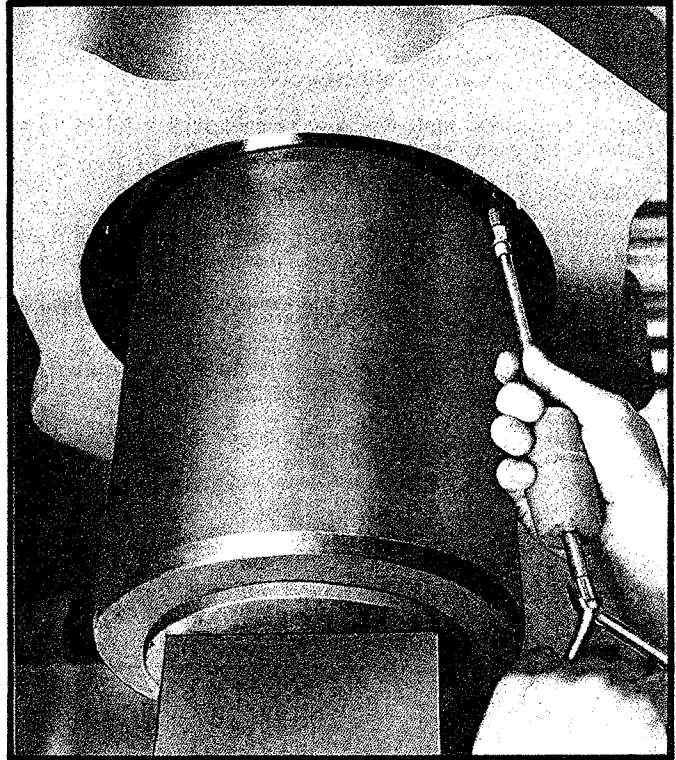

FIGURE 41
7. Using auto body slide hammer-puller, remove the piston rod seal, Figure 41. This seal has no energizing "o" ring. Be careful not to damage finished surface of piston rod or lower head seat.